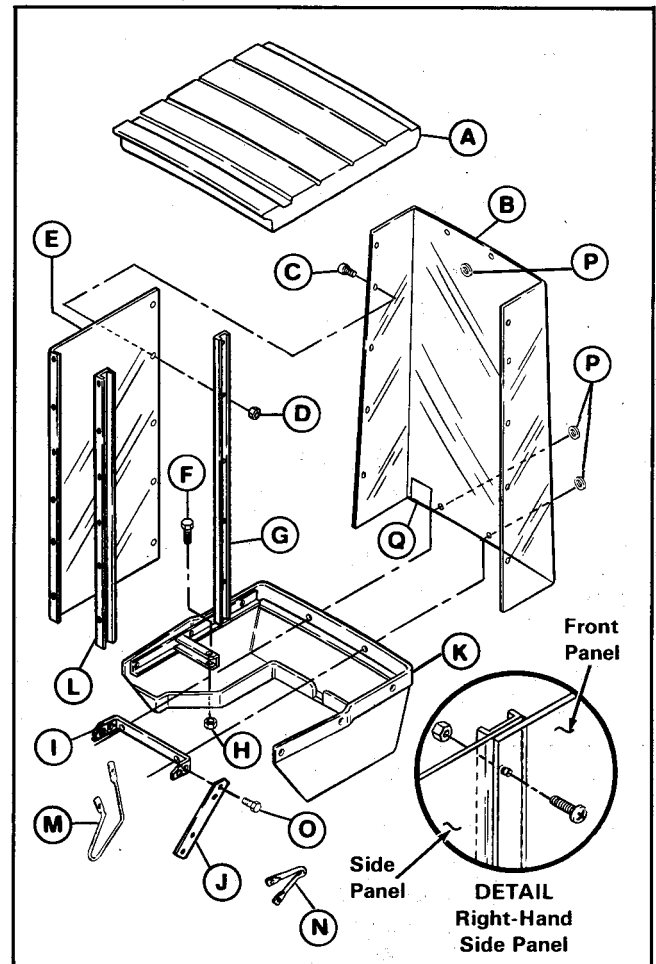

Figure 1
Take an inventory of the parts by referring to figure 1.
5. Attach the front support bracket (I, figure 1) to the side supports (J) using two hex head capscrews (O) and nuts (D) on each side.
18. Install the cleaning instruction decal (Q, figure 1) to the inside surface so it is readable from operator's position. Align the bottom of the decal with the bottom of the front panel on left-hand side as shown.